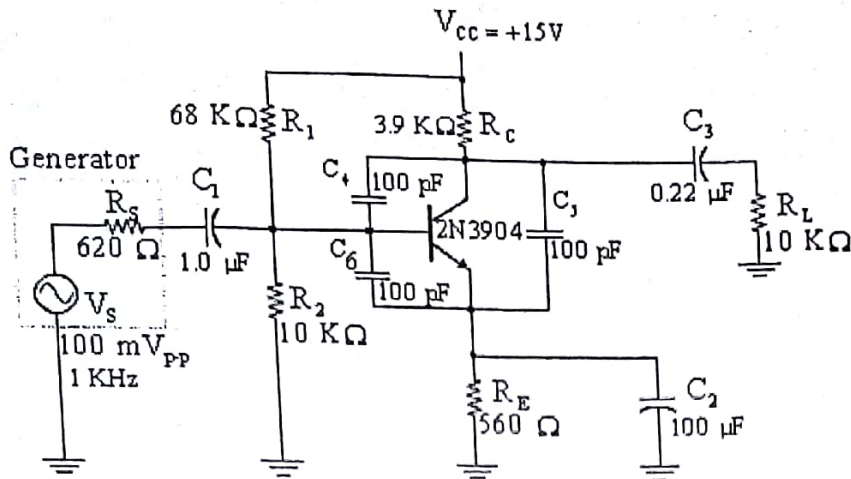

Fig.4: Measurement of High Frequency Response
9. Compute the DC and AC parameters for the CE amplifier shown in Figure 4. The purpose of C_4 , C_5 , and C_6 is to reduce the high-frequency response (as discussed in the Summary of Theory) to make it easier to measure; they do not affect any other parameter. Calculate the parameters in Table 5.
10. Construct the amplifier shown in Figure 4. Measure and record the parameters listed in Table 5 (in the open boxes) and confirm your calculations. Recheck your work if the calculated and measured values differ significantly.
4. Assume the amplifier shown in Figure 4 contained an unbypassed 10-ohm resistor in the emitter circuit. What effect does this have on the: